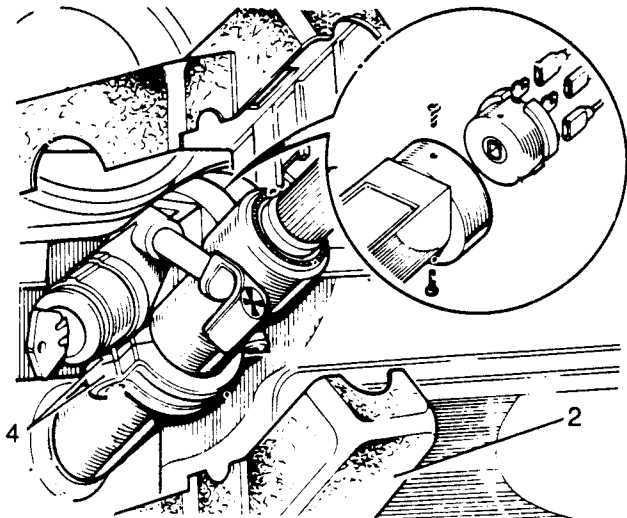

Fig L4.6
- (3) Refer to Fig L4.6. Replace the steering column lock and retainer saddle (4) and secure with new bolts.
- (4) Replace the lower shroud (2).
- (5) Replace the upper shroud (1).
- (6) Reconnect the cold start control in the engine compartment.
- (7) Refit the battery negative lead.